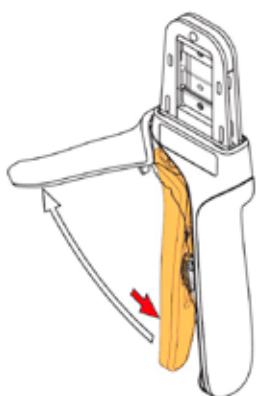

Fig. 1
- Check the locator is assembled (see the Z80-255 Instruction Sheet for details). Ensure that the crimp tool is at the fully open position (Figure 1).